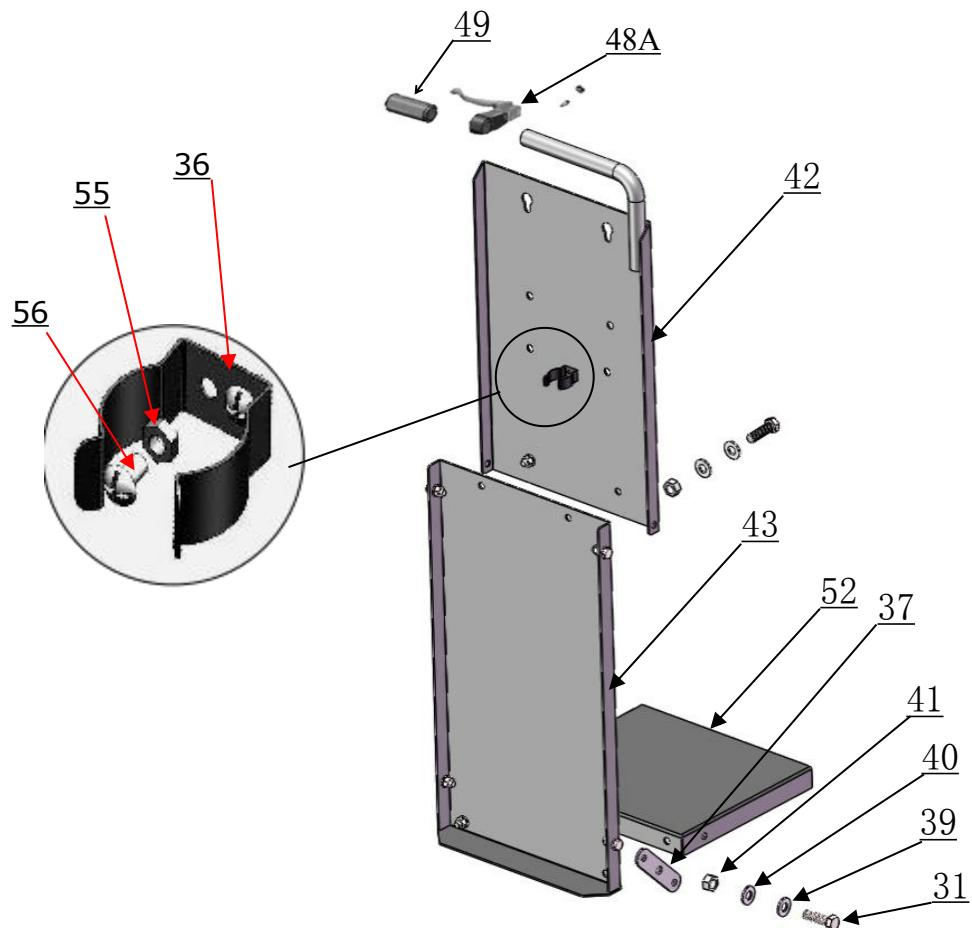

Fig. 6
B. Install power unit stand, lock release handle and telescoping dolly. (See Fig. 6)